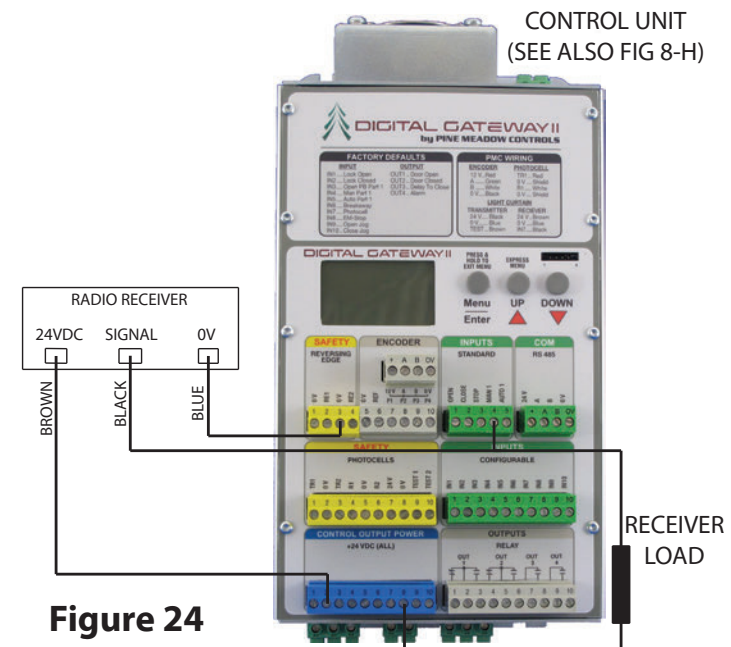

Figure 24
- Install wiring per wiring diagram FIG 24 page 19.
- Wire the Radio receiver directly into the controller (through an available opening), as shown in Figure 24.